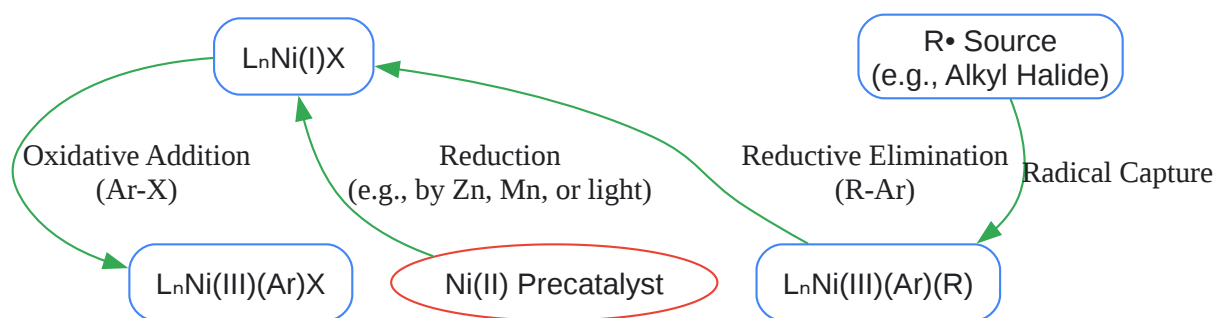

Figure 2. Simplified Ni(I)/Ni(III) Catalytic Cycle
Caption: Figure 2. A common catalytic cycle involving both Ni(II) and Ni(III).